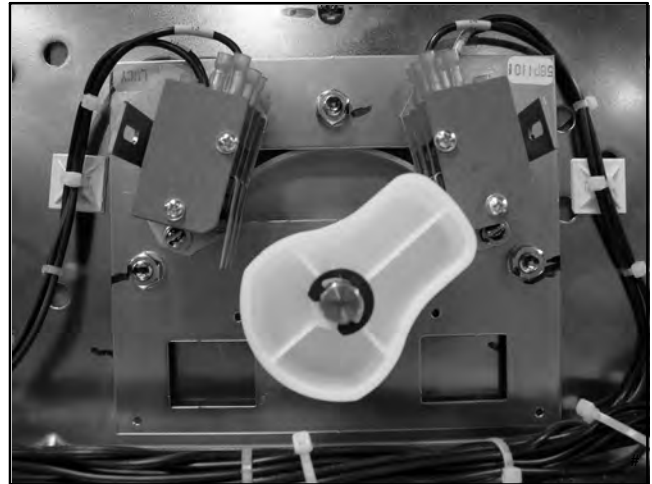

Figure 6-3 Microswitches
5. Note the location of the fast-on connectors to the microswitch terminals. See Figure 6-3.